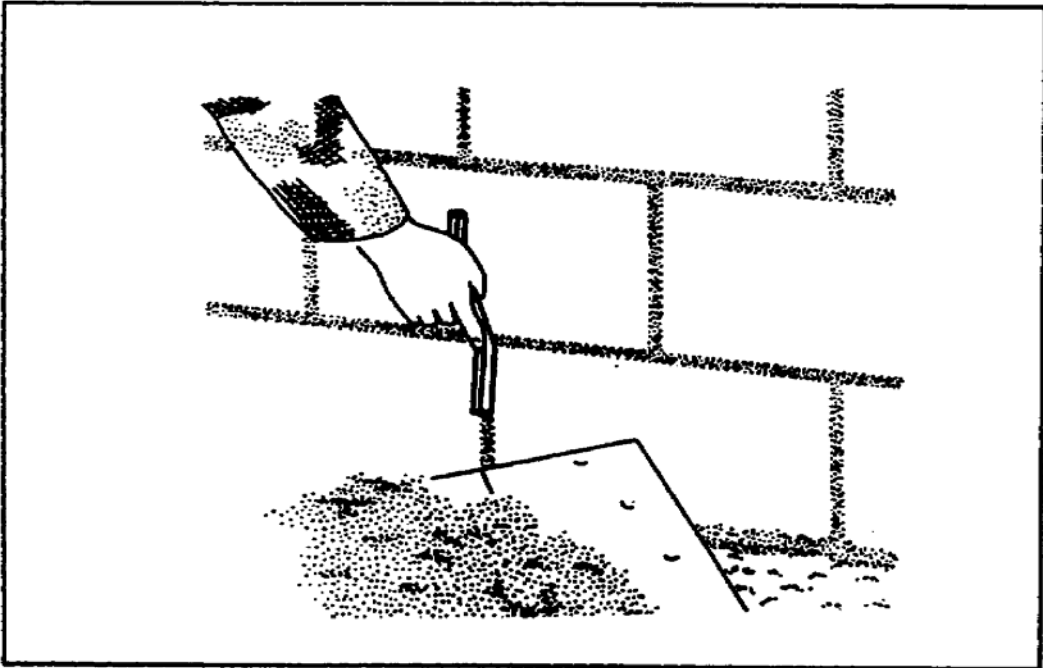

Figure 2-22. Striking vertical joints
b. S-shaped. Use the S-shaped jointer to tool vertical joints (Figure 2-22). This is called striking.